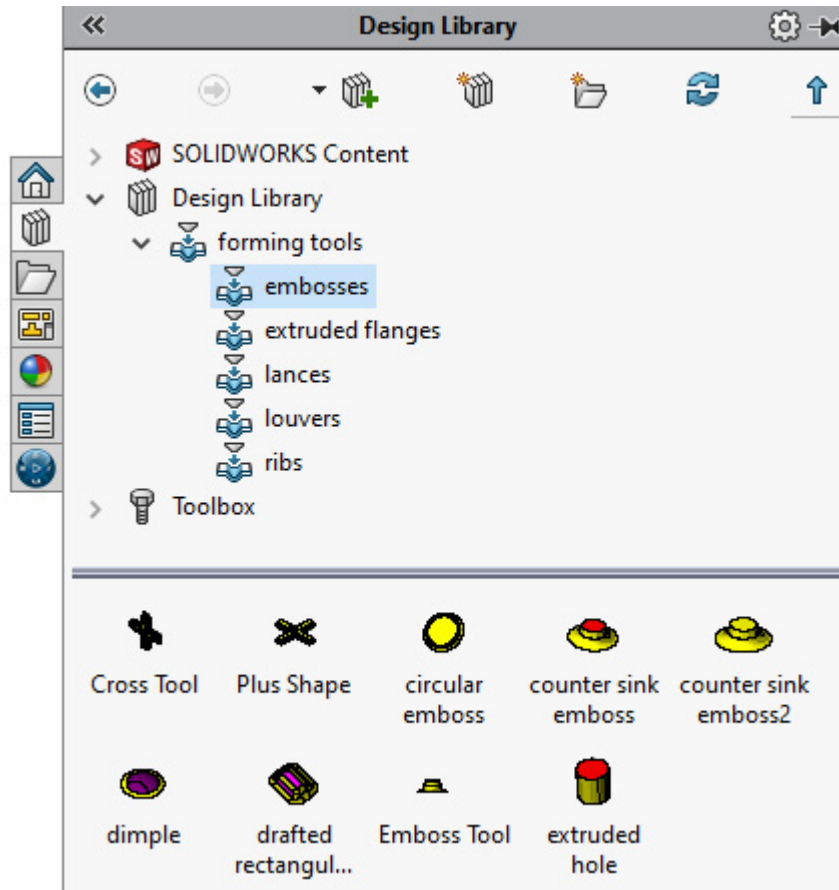

Figure 10.3: Expanding the Design Library and the Forming Tools folder
3. Expand the **Design Library** folder within the **Task Pane** and expand the **Forming Tools** folder. You should now see a number of different Forming Tool types, such as **embosses** and **ribs**. Click on **embosses** and note that the various embossing tools available will be shown at the bottom of the **Task Pane**. **Note:** Depending on your settings and SolidWorks version, your **Design Library** may appear slightly different from how it looks in *Figure 10.3*.